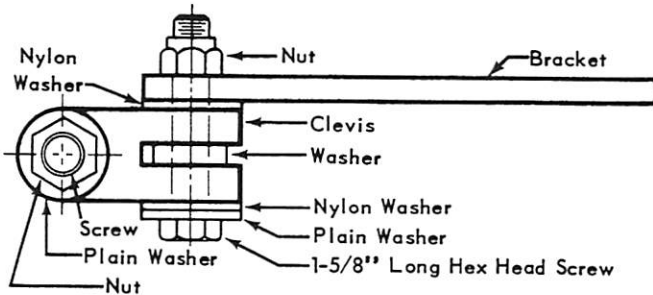
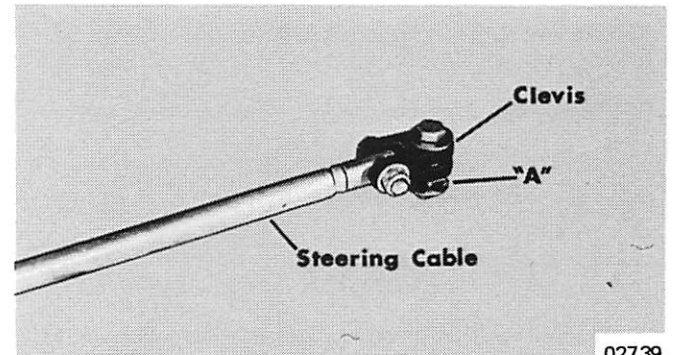

Figure 7. Drawing of Engine Attachment - 40 HP and Larger
Figure 9. Engine Attachment - Mercury Models 1965 & Later
3. Attach clevis and cable to steering bracket. Refer to Figures 3-4-5-6 for all models thru 33 HP. For 40 HP and larger, see Figure 7.
2. Attach clevis to end of steering arm as shown in Figures 9 and 10. Some models may require that clevis be attached below arm. (Figure 7)
1. Attach clevis and cable to engine steering arm. (Figures 9 and 10)
2. Clevis must be attached to top of arm at point "A". (Figure 9)